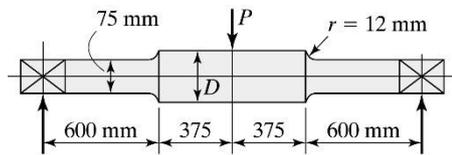

Fig.4
5. Figure 4 shows a nonrotating shaft with load P varying from 4500 N to 13,500 N. The material tests $q = 1.0$, $\sigma_{ult} = 500$ MPa, $\sigma_{yp} = 290$ MPa, and $\sigma_e = 130$ MPa. Factor of safety is equal to 2. Find the permissible value for D if stress conditions at the fillets are to be satisfactory for continuous operation.